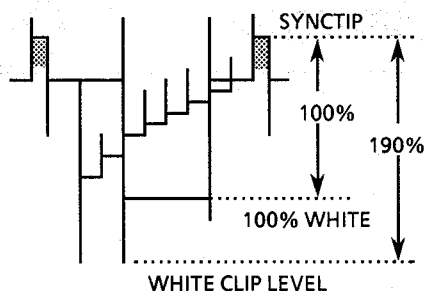

Figure 5-5.
1. Connect a oscilloscope to Pin (48) of IC201 and GND.
3. Make sure that the overshoot of the video signal is clipped at 190% as shown in Figure 5-5.